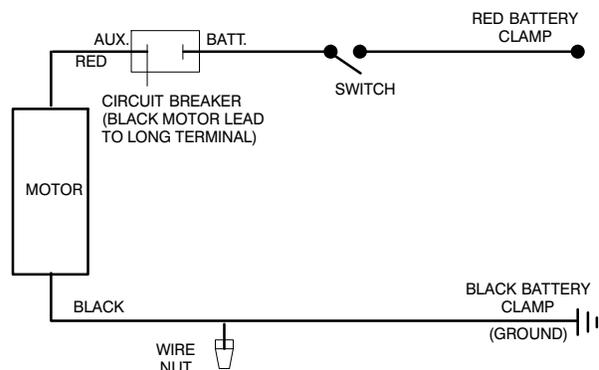

Figure 3. Wiring Diagram
Refer to the wiring diagram in Figure 3, and use the wire nut (29) to secure the black motor lead to the black cable lead. Secure the ring terminal on the red motor cable lead to the shorter terminal on the circuit breaker with the previously removed nut.